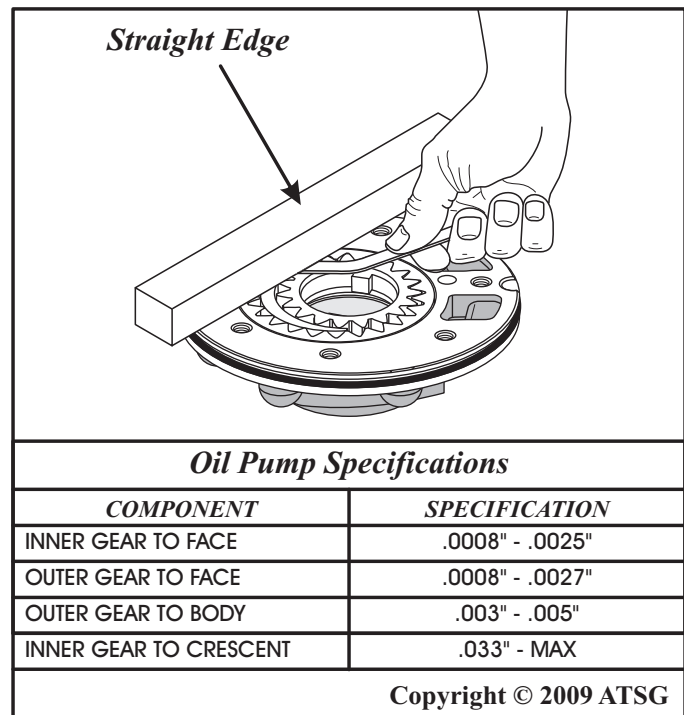

Figure 68
17. Measure gear to face clearances with straight edge and feeler gage, as shown in Figure 68.